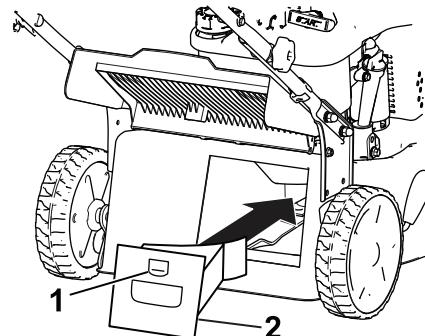

Figure 16
1. Raise and hold up the rear door (Figure 16).